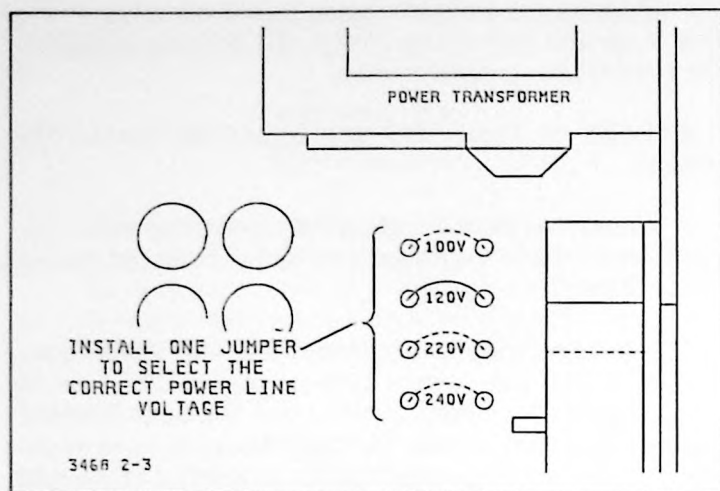

Figure 2-5. Power Line Voltage Configuration
e. Locate the power line select jumper. It is located on the 3468A/B's main printed circuit board at the right side of the power transformer (see Figure 2-5). If the jumper is in the correct position, go to paragraph 2-11 to reassemble the 3468A/B. If the jumper needs to be changed, continue with paragraph 2-10.
d. Refer to Figure 2-5 and locate the power line jumper.
f. Refer to Figure 2-5 to determine into which position the power line jumper is to be placed. Then install the jumper into the holes which select the desired power line voltage. (The solder in the holes may have to be removed before the jumper can be installed.) Make sure there is a good solder joint between the jumper and printed circuit board trace. The line voltages and corresponding jumper locations are as follows: